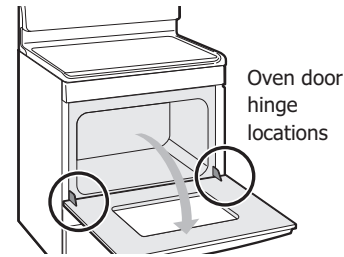

Figure 33: Door hinge location
3. Fully open the oven door, horizontal with floor (Figure 33).